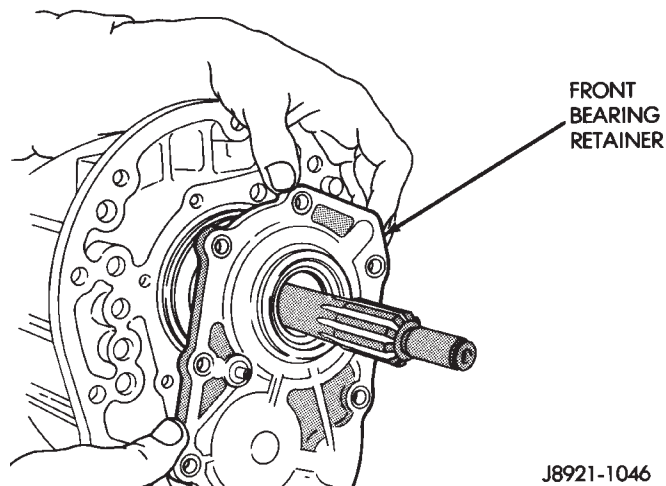

Fig. 31 Remove Front Bearing Retainer
(19) Remove the bolts holding the front bearing retainer to the transmission case.
(20) Remove the bearing retainer from transmission case (Fig. 31).